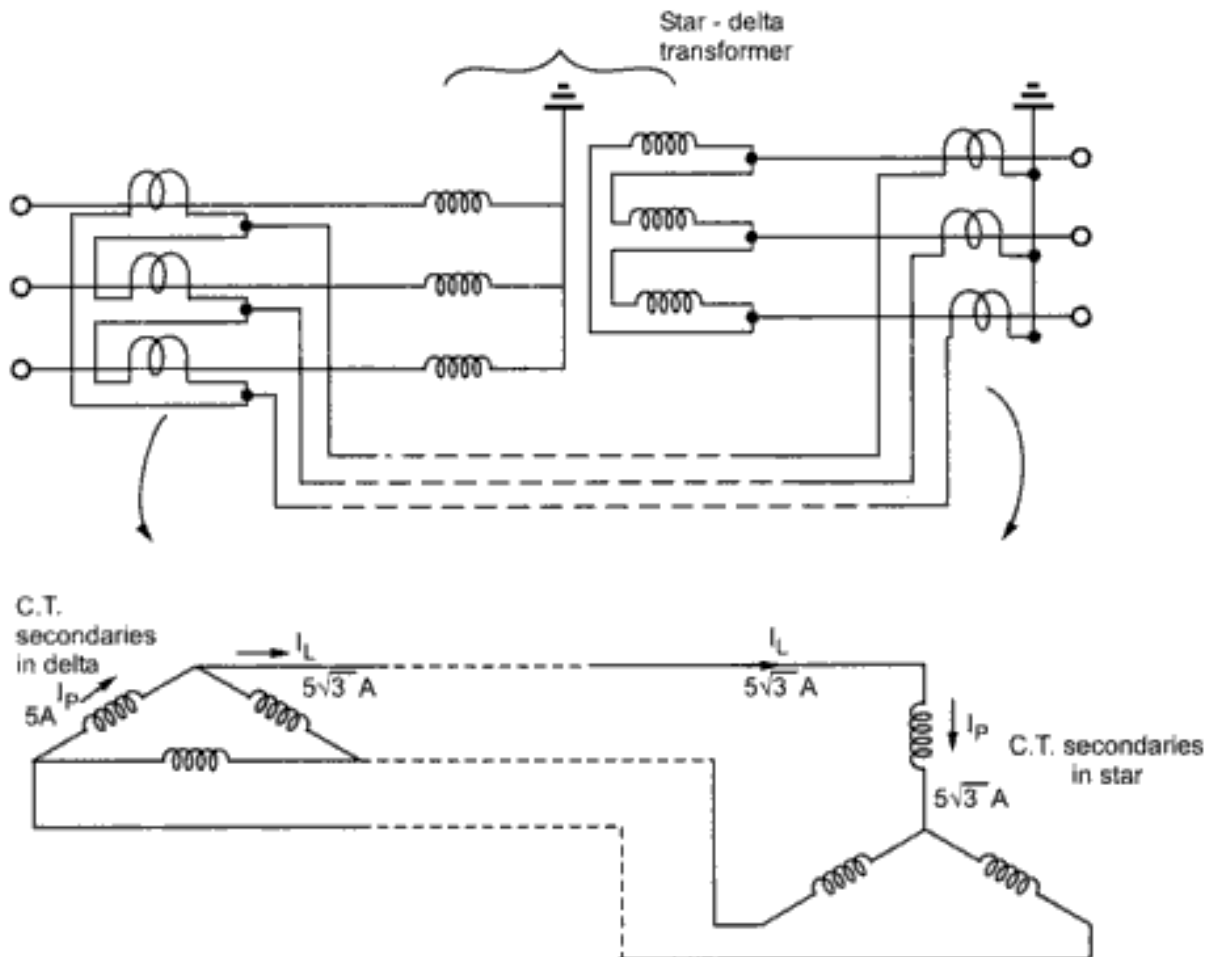

Fig. 7.4
**Solution :** The arrangement is shown in the Fig. 7.4.
This is shown in the Fig. 7.4.